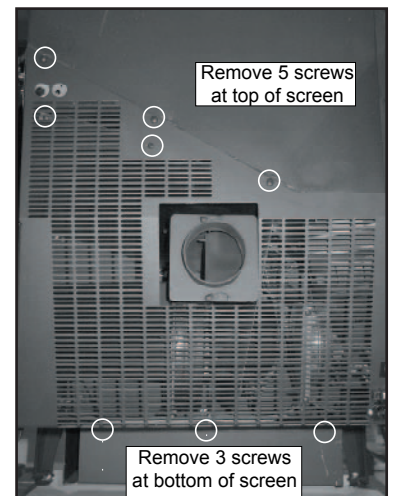

Figure 29.5
- f. Remove the rear screen from the stove by removing the 3 screws at the bottom and the 5 screws along the top of the screen. **See Figure 29.5 on page 29.**